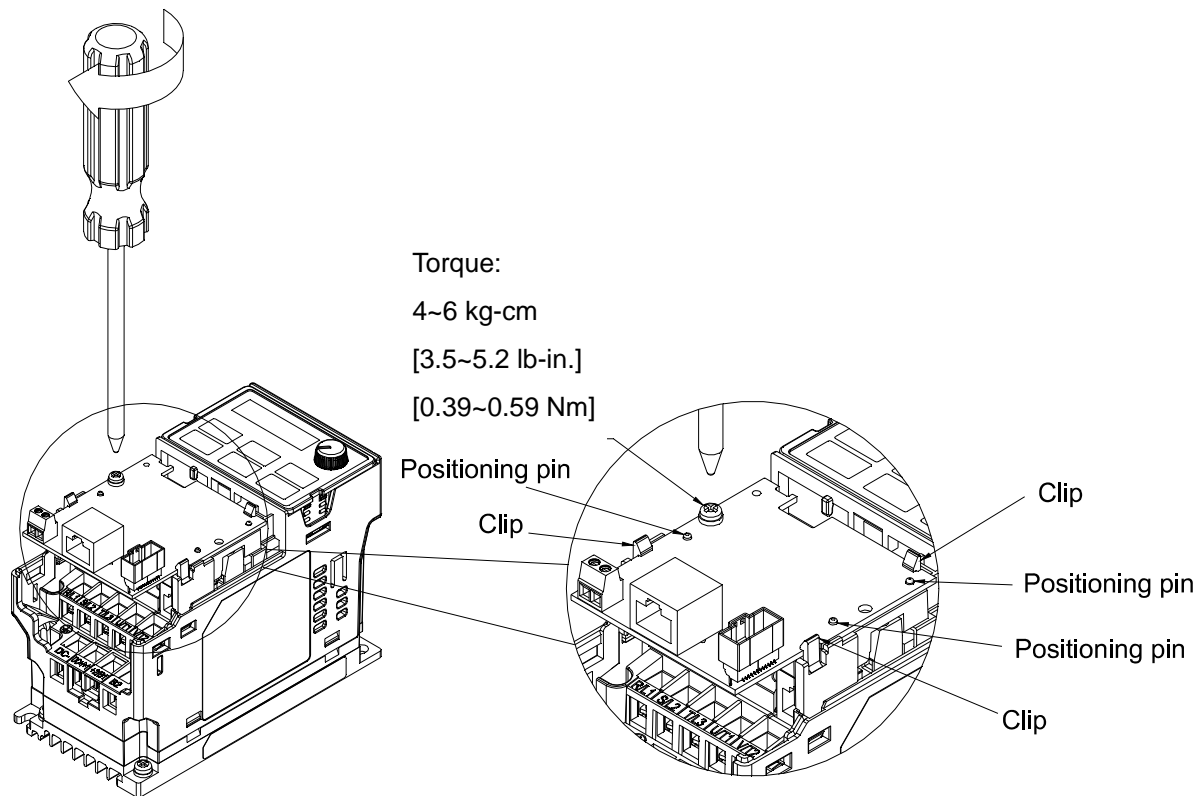

Fig. 8-3
- Wiring after the option card fixed fitting is clipped with the holes (see  NOTE). Fasten the screw to fix the option card before wiring (shown in Fig. 8-3). Torque: 4~6 kg-cm [3.5~5.2 lb-in.] / [0.39~0.59 Nm]. While the wiring is finished, the front cover cannot put it back on directly but needs to assembly the option card reversely. Please refer to the subsequent steps to complete the installation.